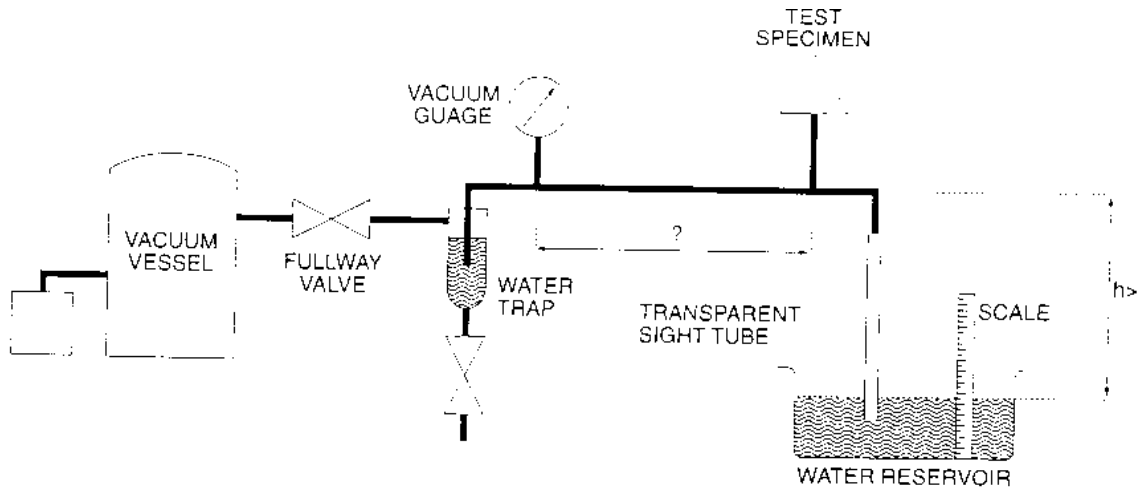

FIG 80
- (1) Mount the device in the test system in its normal working position. (Reference Figure 80).
- (2) Open the full-way valve within 2 seconds so that the absolute pressure below 0.5 bar is applied to the pressurised air inlet valve for at least 5 seconds.